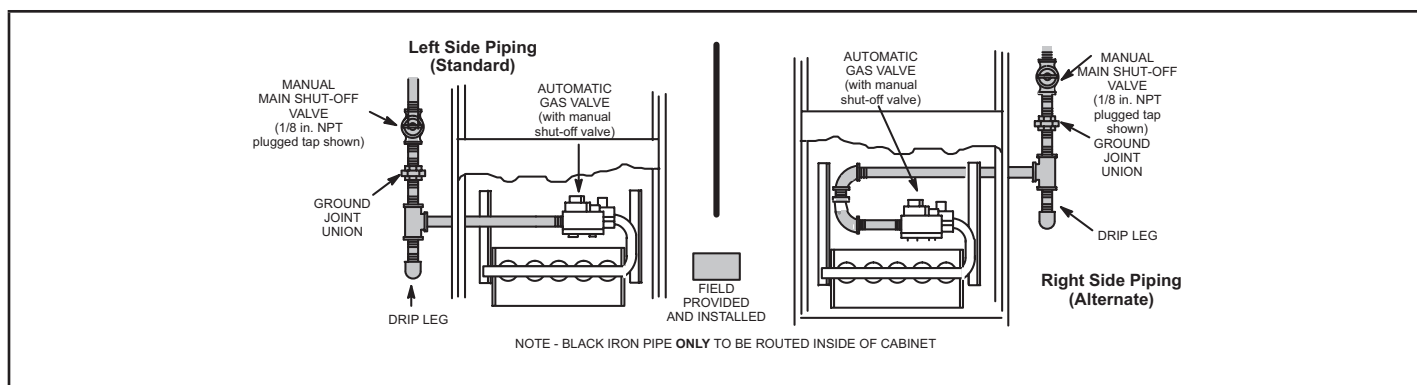

FIGURE 44
- 1 - Gas piping may be routed into the unit through either the left or right-hand side. Supply piping enters into the gas valve from the side of the valve as shown in FIGURE 44. Connect the gas supply piping into the gas valve. The maximum torque is 800 in lbs and minimum torque is 350 in lbs when attaching the gas piping to the gas valve.
- 3 - Gas piping must not run in or through air ducts, clothes chutes, chimneys or gas vents, dumb waiters or elevator shafts. Center gas line through piping hole. Gas line should not touch side of unit. See FIGURE 44.